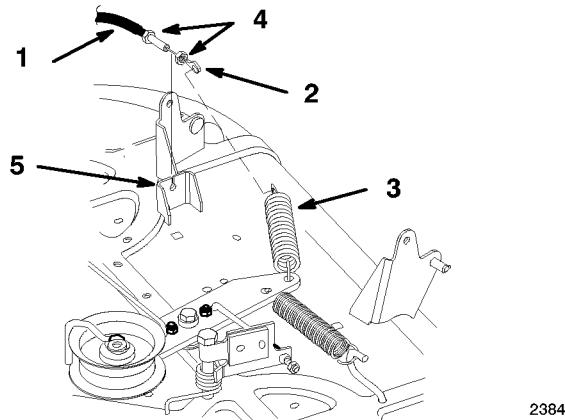

Figure 46
10. Remove first jam nut and thread second jam nut onto the blade control (PTO) cable all the way. Route cable through slot in deck bracket and thread second jam nut onto cable (Fig. 46).
11. Hook end of blade control (PTO) cable onto idler spring (Fig. 46).